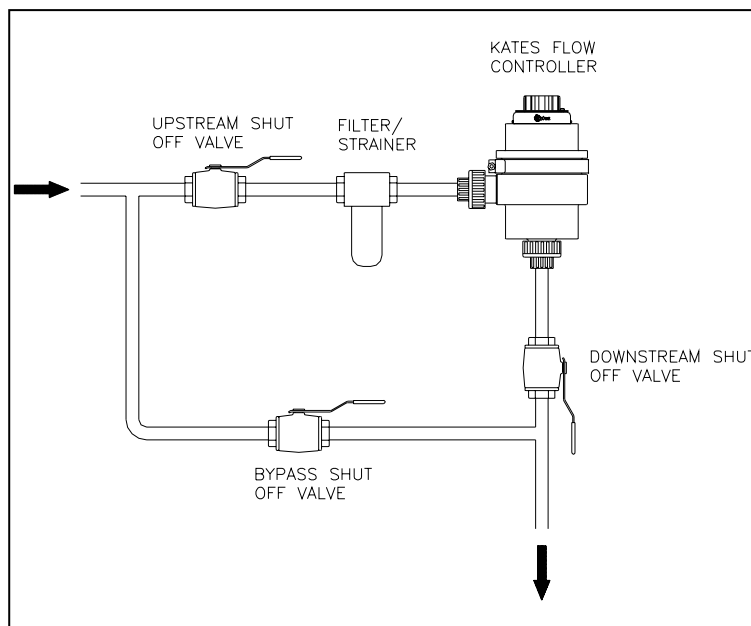

Figure 2
2. Upstream and downstream shutoff valves and a bypass valve should be installed so that the controller may be opened for inspection and cleaning without requiring complete system shutdown. (See fig. 2)
5. Place controller in service by opening upstream and downstream shutoff valves and closing the bypass valve around the controller. Controller will now regulate the flow rate at the set value. (See fig. 2)
2. It is not necessary to remove the controller from the line to clean. If installation includes proper shutoff and bypass valves, operate these and take controller off stream or control. (See fig. 2)